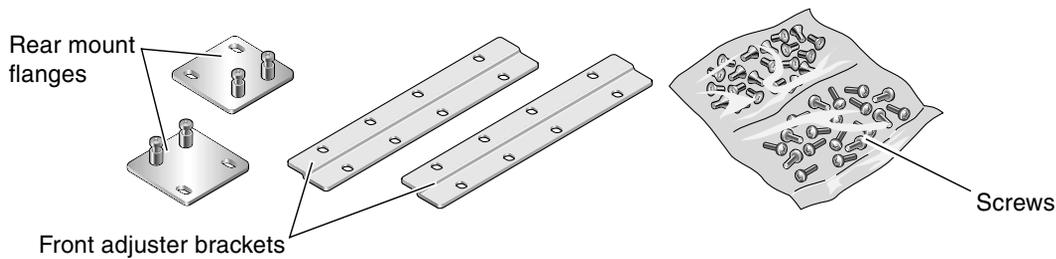

FIGURE 3-15 Contents of the Hardmount 600 mm 4-Post Kit
6. Get the 600 mm front adjuster brackets from the rack kit (FIGURE 3-15).
10. Get the two rear mount flanges from the rack kit (FIGURE 3-15).